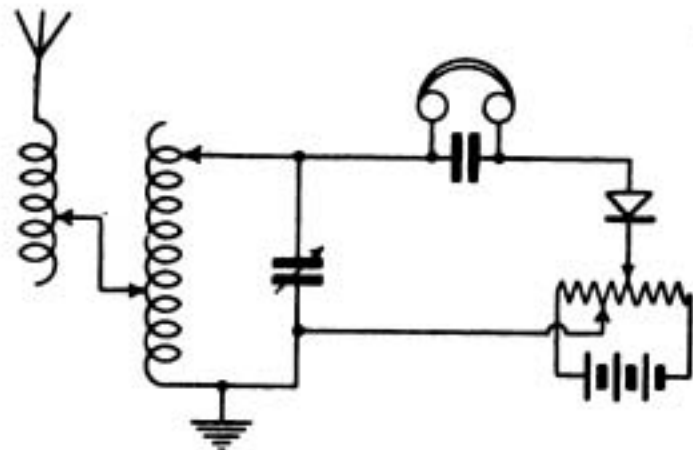

Fig. 5.
You should consult article in issue December, 1919, for much useful information regarding a receiving station of this type. (1) Re aerial, see above article. Your single slide inductance may be used for aerial tuning purposes, and should be wound with No. 22 wire. Your triple slide inductance may be used as an auto coupler; if you use No. 26 wire you will make certain of attaining the wavelength you specify. (2) See article mentioned above. (3) Potentiometer improves results with most crystals, but not all. If you use it wind with No. 36 Eureka wire 20 to 30 yards should suffice. (4) We append diagram of a circuit we suggest. See Fig. 5